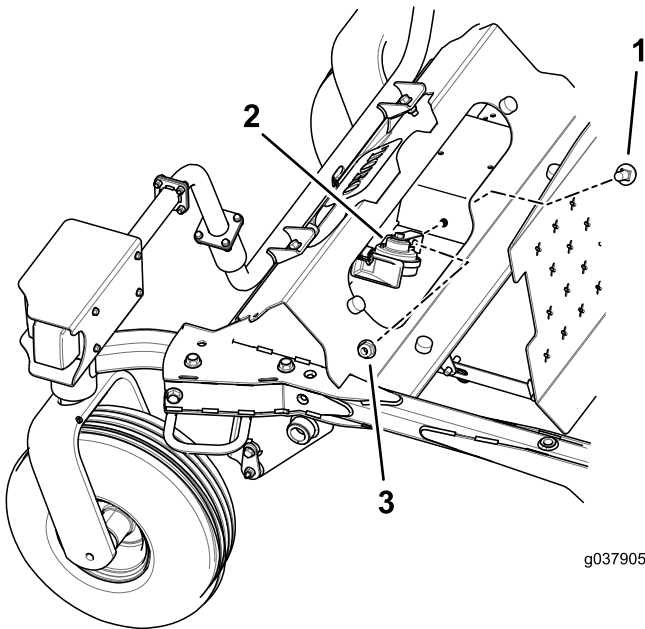

Figure 14
Install the horn as shown in Figure 14.
1. Thread the wiring harness branch with the flasher relay up into the side cover, where the main harness enters the panel (Figure 14).